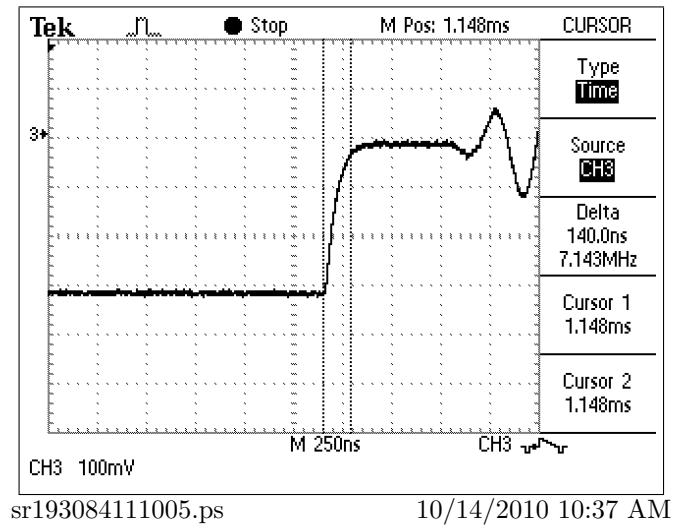

Figure 5: VK-S275R 0501-0102, HSYNC Trailing Edge Rise Time, Capture #3
- 9.5 Figure 5, page 5, shows the trailing edge timing of the HSYNC pulse.